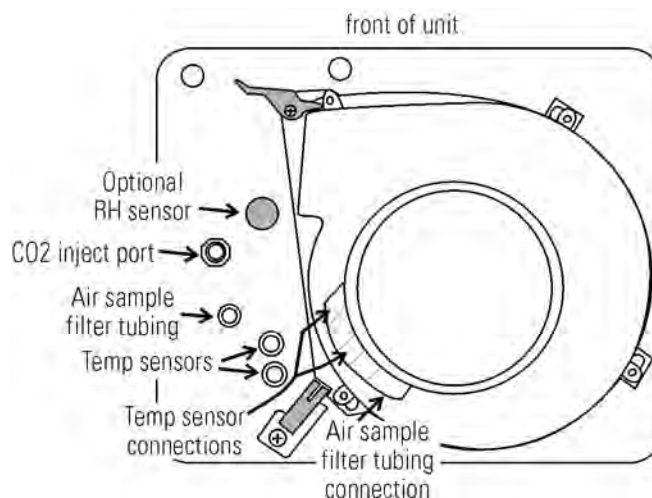

Figure 5-4. Underside View of Chamber Ceiling
On I/R incubators, the red light on the I/R module (see Figure 5-4 for the module circuit board location) is lit continuously if communication is lost between the CO₂ board and the sensor head. The CO₂ display is locked at 00.0 without injection. Turning the incubator off and on will not clear the alarm. Only proper connections of all the components corrects the alarm.
16. Carefully pull the temperature sensors and air sample filter tubing down until they can be inserted approximately 1 inch into the appropriate holes in the back of the blower scroll. If applicable, place the optional RH sensor into the corresponding clip on the top duct. See Figure 5-4.